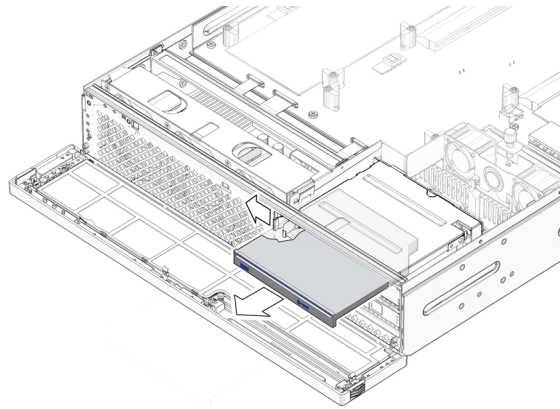

FIGURE 3-8 Releasing the Optical Media Drive
4. Push the release tab to the left and pull the probe forward, freeing the optical media drive (FIGURE 3-8).